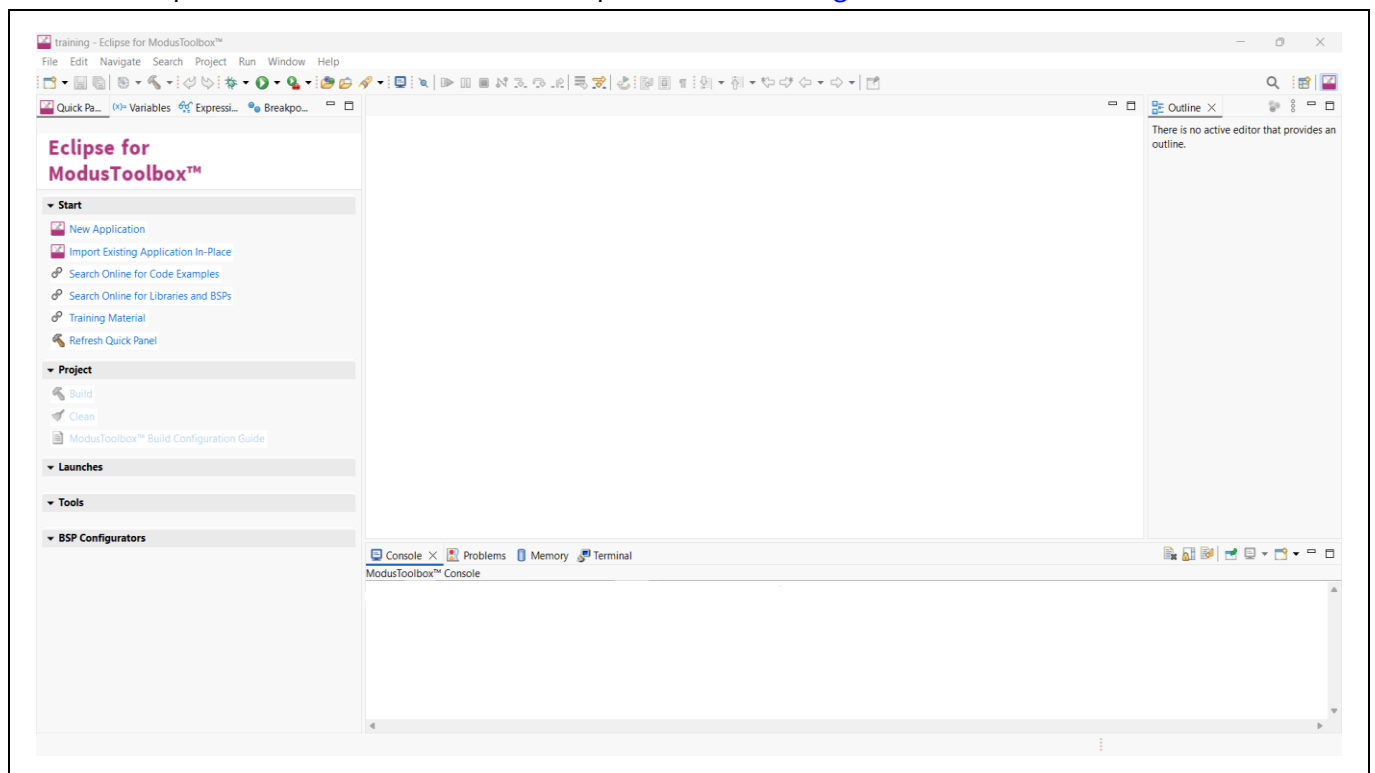

Figure 4 Launch ModusToolbox™ workspace
3. **Launch** opens a new ModusToolbox™ workspace as shown in Figure 4.